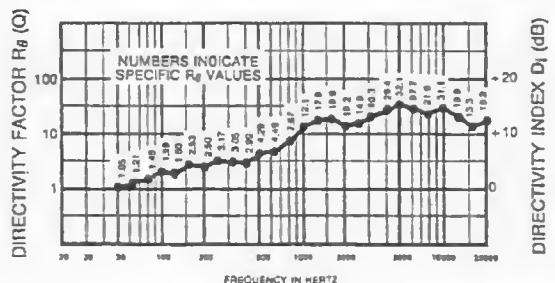

FIGURE 8 — DML-1152/DMC-1152 Directivity
1.0-20 kHz median (see Figure 8)